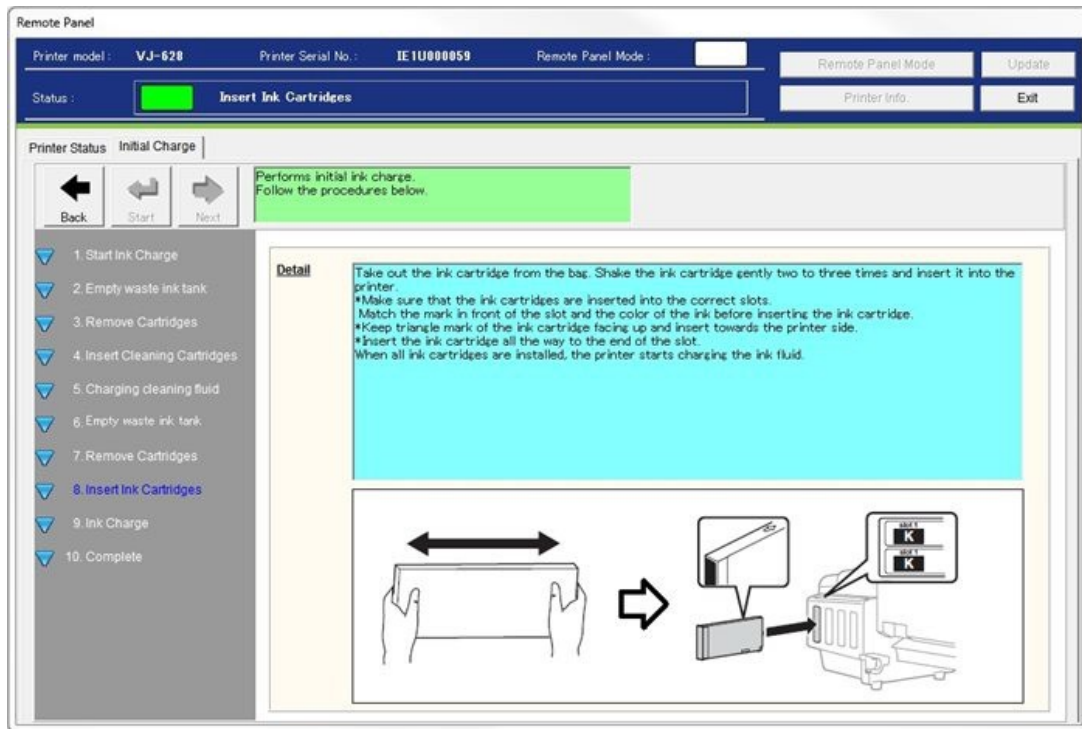

Figure 60
47. Take out the ink cartridge from the bag. Shake the ink cartridge gently two to three times and insert it into the printer. Make sure that the ink cartridges are inserted into the correct slots. Match the mark in front of the slot and the color of the ink before inserting the ink cartridge. Keep triangle mark of the ink cartridge facing up and insert towards the printer side. Insert the ink cartridge all the way to the end of the slot. When all ink cartridges are installed, the printer starts charging the ink fluid. See Figure 60.